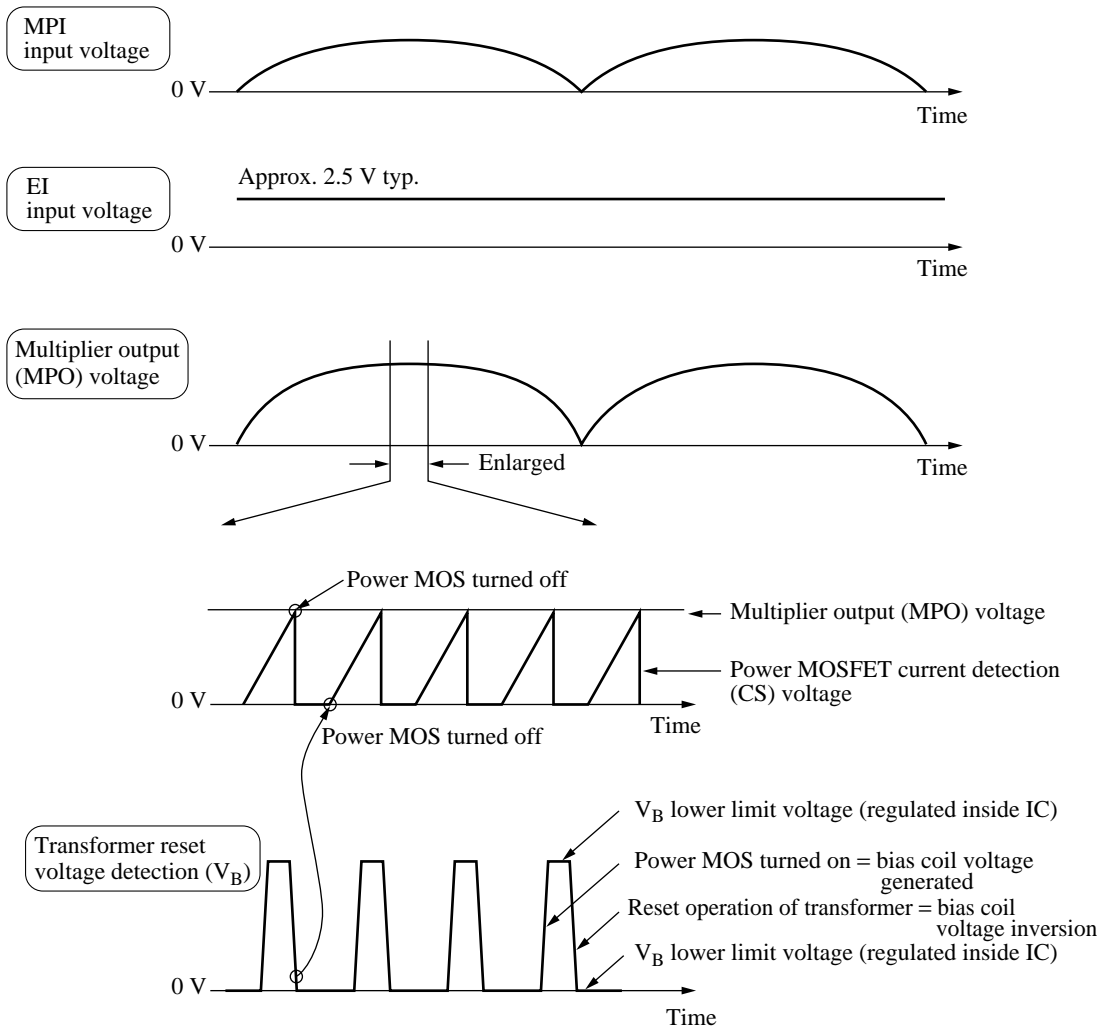
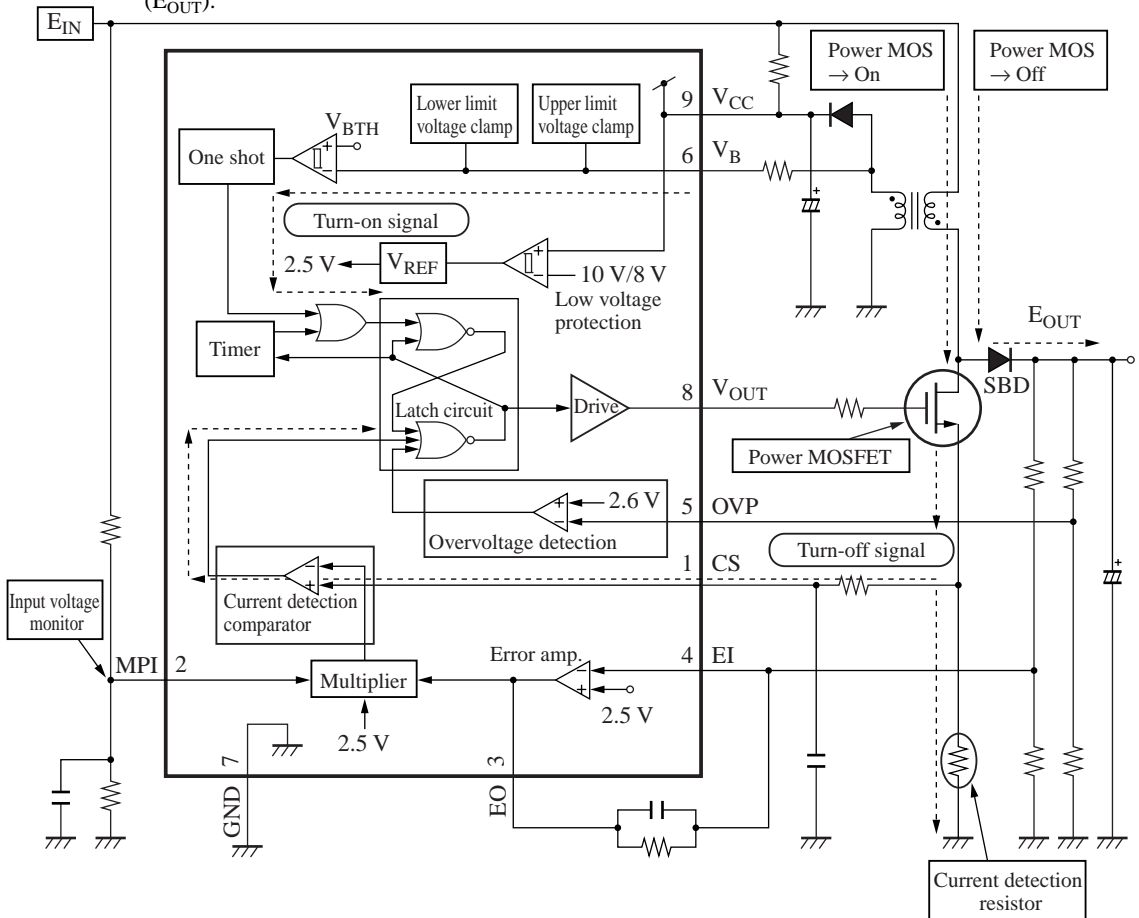

Figure 2. Explanation of normal control operation
Figure 3. Explanation of block diagram and normal operation
#### 2) Control outline description (Refer to figure 2 and figure 3.)
2) Control outline description (Refer to figure 2 and figure 3.) (continued)
(4) Switching device current
#### 2) Control outline description (Refer to figure 2 and figure 3.) (continued)